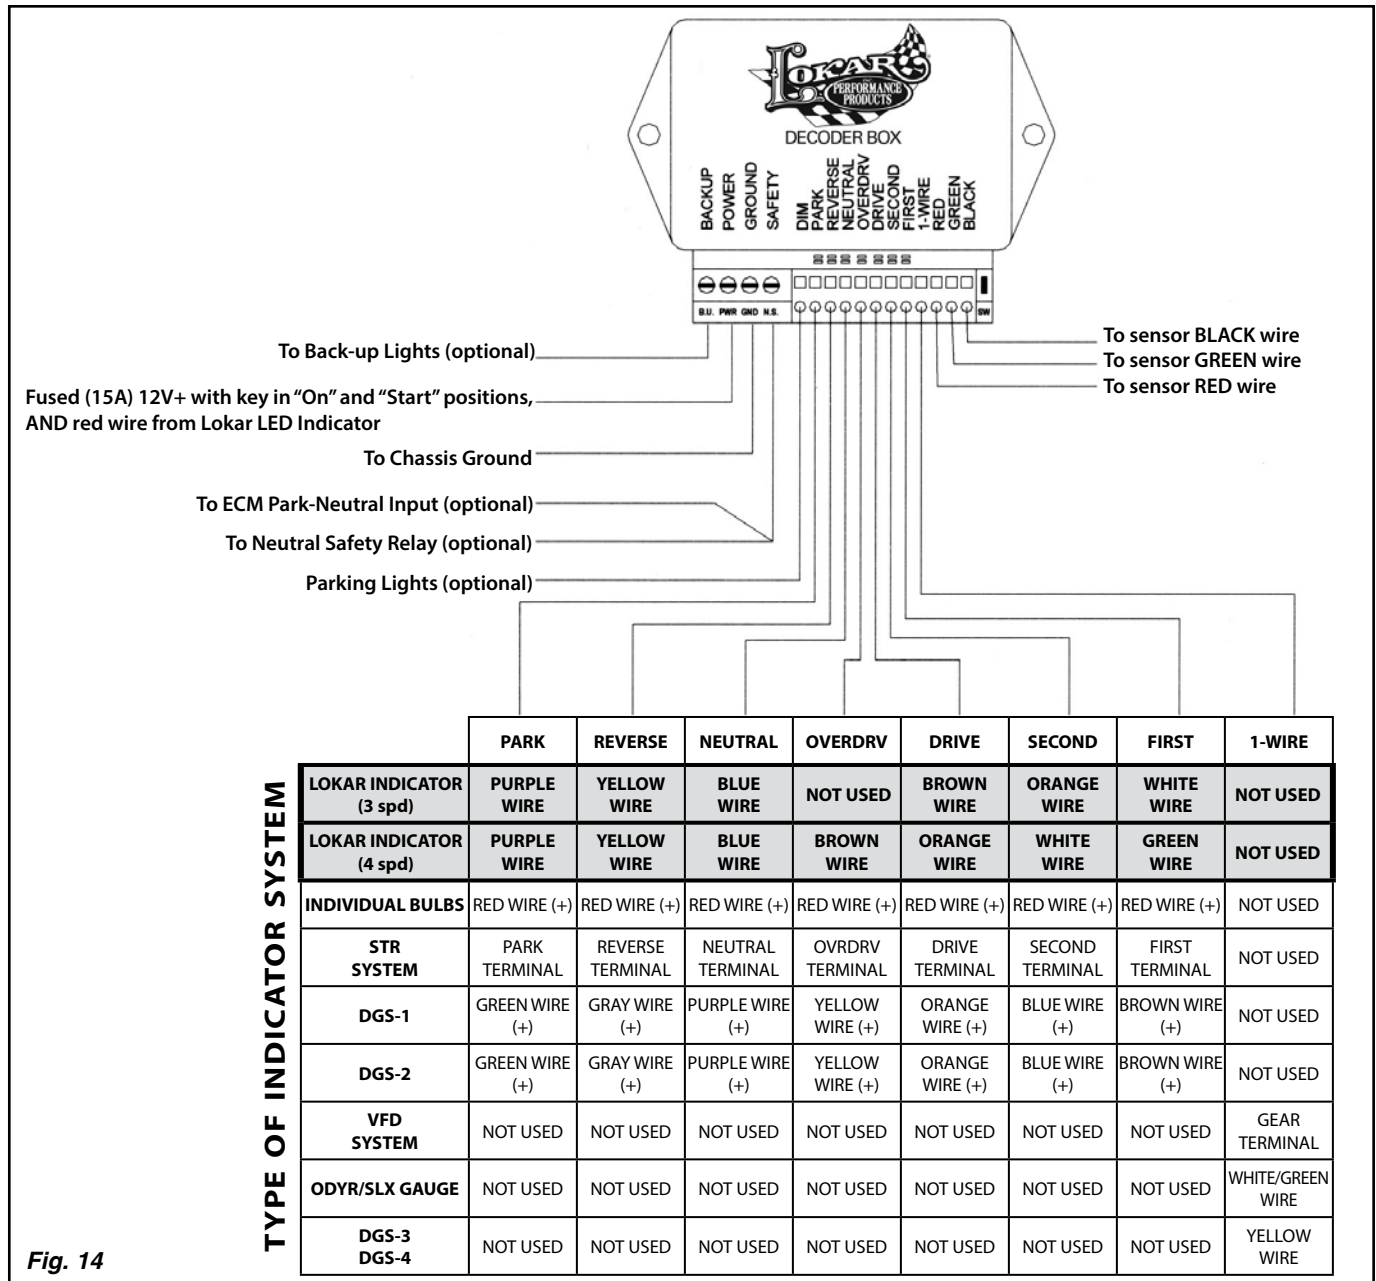

Fig. 14
Connect a solid chassis ground to the "GROUND" terminal on the decoder box. **Fig. 14**
Step 25: Following the wiring diagram in **Fig. 14**, connect the rest of the wires from the LED indicator to the decoder box.